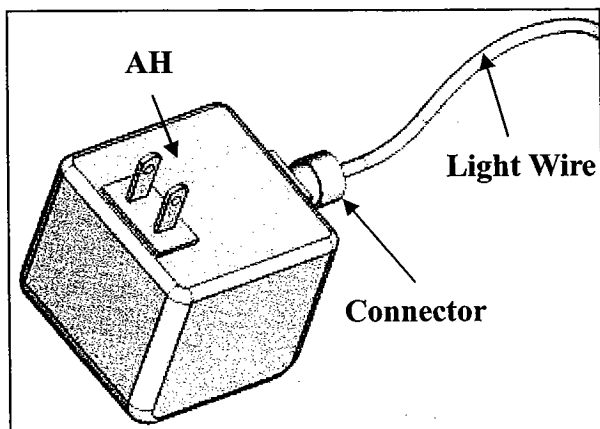
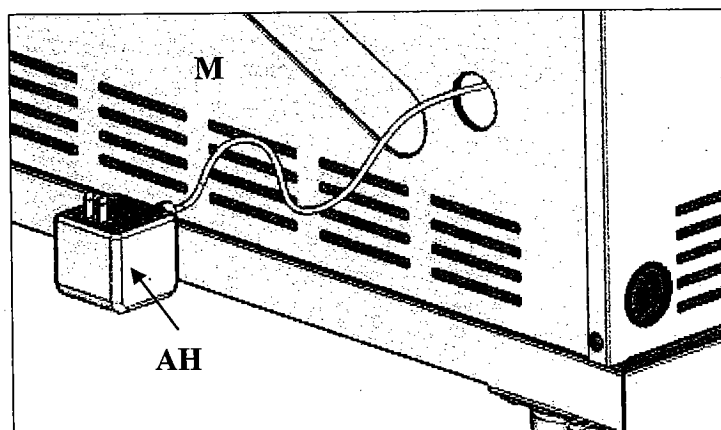

Fig. 17
Fig. 18
- e. Connect the connector to the transformer. Push the connector to mate with the transformer firmly. Then, screw and tighten the cap on the connector. (See Fig.17 & Fig. 18)